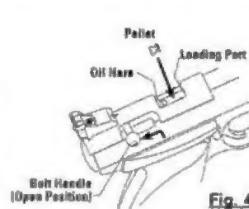

Fig. 4
- Push bolt handle up and pull all the way back until you hear two clicks. (Fig. 4)
- With the bolt in the rearward position, place one pellet, nose first, into the loading port (breech). (Fig. 4) This is a single shot pellet airgun. Load no more than one pellet at a time.
- Your airgun will work best if you oil it every 250 shots. Put 2 or 3 drops of Crosman 0241 Lubricating Oil on the pump pivot pins, the trigger, the pump cup in the pump mechanism (Fig. 8) and the o-ring on the bolt. (See Fig. 4) A little oil on the outside of the barrel helps prevent rust. Crosman 0241 Lubricating Oil is best, but any light household oil is better than none. DO NOT over-oil as this can cause damage to your airgun.